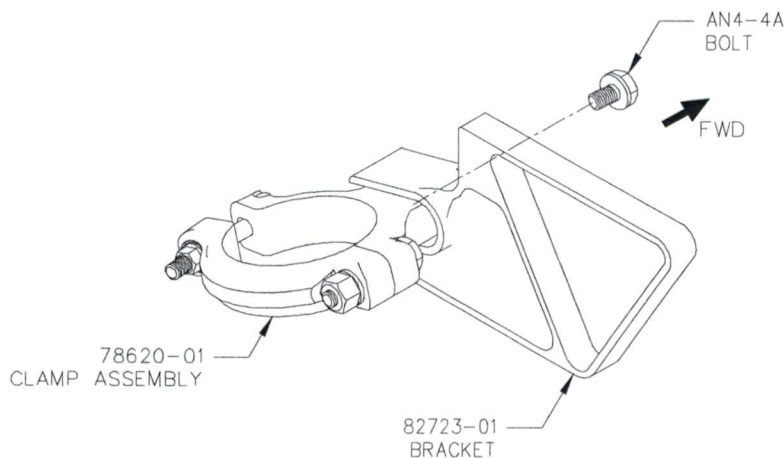

Figure 25-6 – Clamp and Bracket Assembly
Refer to Figure 25-6 thru 25-8.
1. Attach Clamp 78620-01 to Bracket 82723-01 with AN4-4A Bolt and AN960-416 Washer. Orient clamp with T-bolt side inboard, and bracket on forward side of cross tube. Torque bolt to 30-40 in-lbs. Slide bracket with clamp onto aft end of step. See figure 25-6. Repeat for second Bracket.
Refer to figures 25-6 thru 25-8.